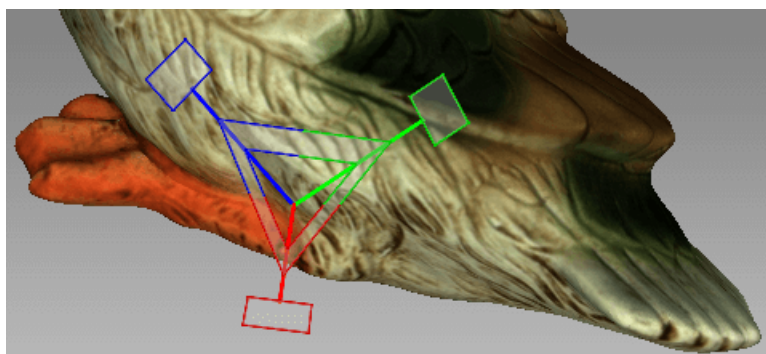

Figure 118: Scaling control
- Drag the origin of the control (Figure 118) or either of its round ends in the *3D View* window.